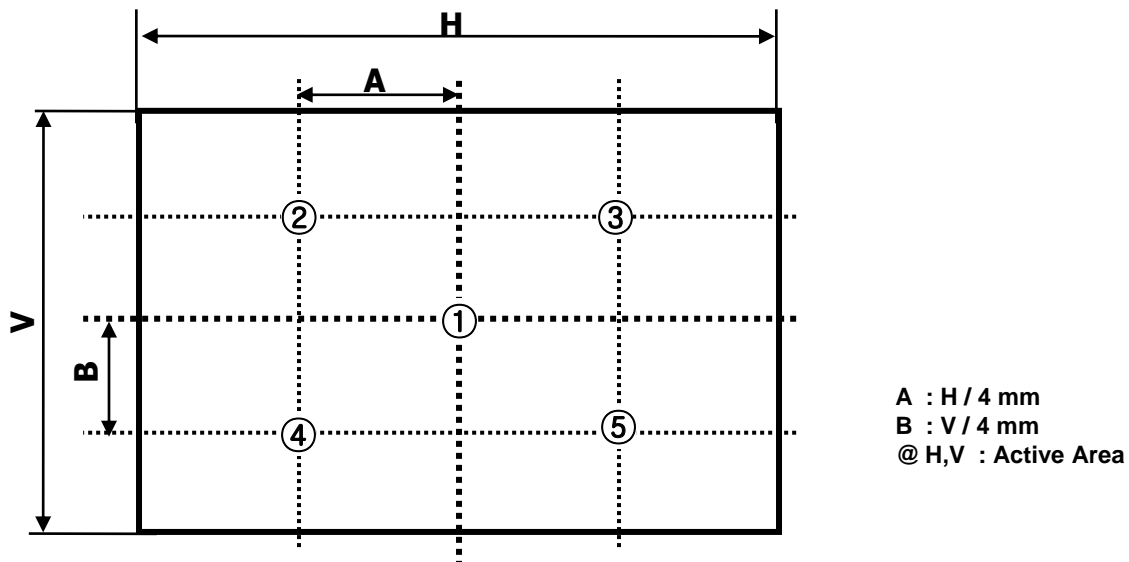

FIG. 2 5 Points for Contrast Ratio
n = the Position number(1, 2, 3, 4, 5). For more information, see FIG 2.
- (1) Temperature : 5 ~ 40 °C
- (2) Humidity : 35 ~ 75 %RH
- (3) Period : 6 months
- (4) Control of ventilation and temperature is necessary.
- (5) Please make sure to protect the product from strong light exposure, water or moisture. Be careful for condensation.
- (6) Please keep the modules at a circumstance shown below Fig. 2
< Fig. 2 >